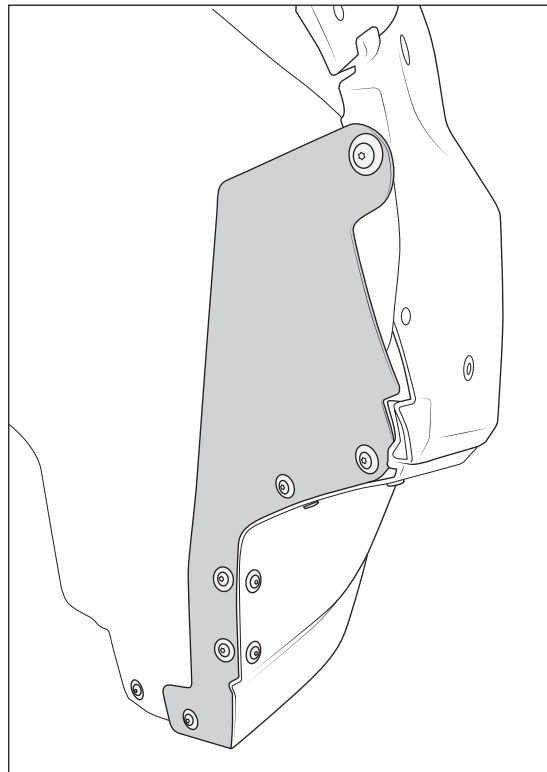

Figure 14
B. Fasten closeout panel at top existing hole, once in place, mark and drill all remaining holes (fig. 14).